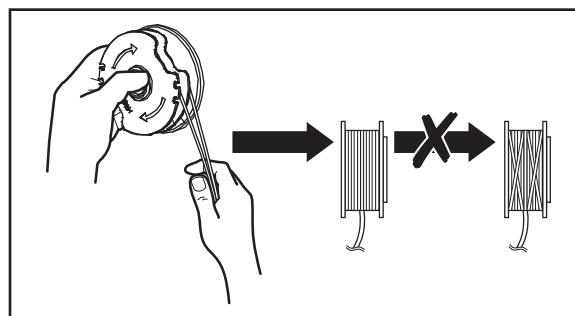

Fig. 26
- Wind all the trimming lines firmly around the trimming spool (12c) in direction of the arrows on the trimming spool (12c) (Fig. 26).